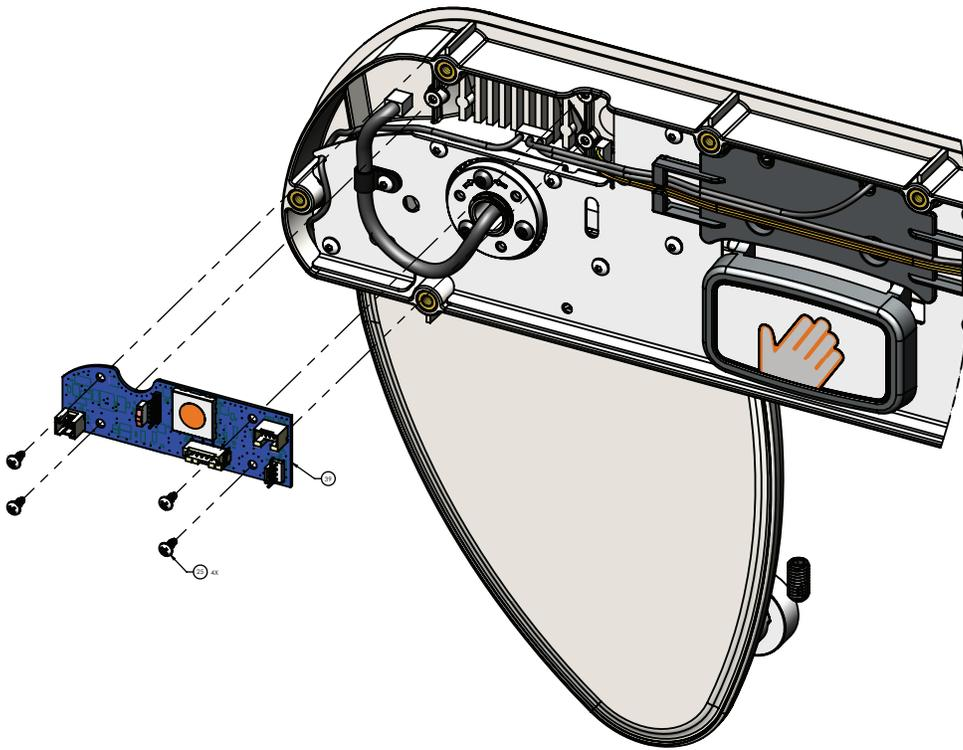

Figure 42 – Head siderail control board replacement, patient right
10. Using a #2 Phillips screwdriver, remove and save the four screws (25) that secure the siderail control board (39) to the siderail assembly (Figure 42).
11. Remove and discard the siderail control board (39)